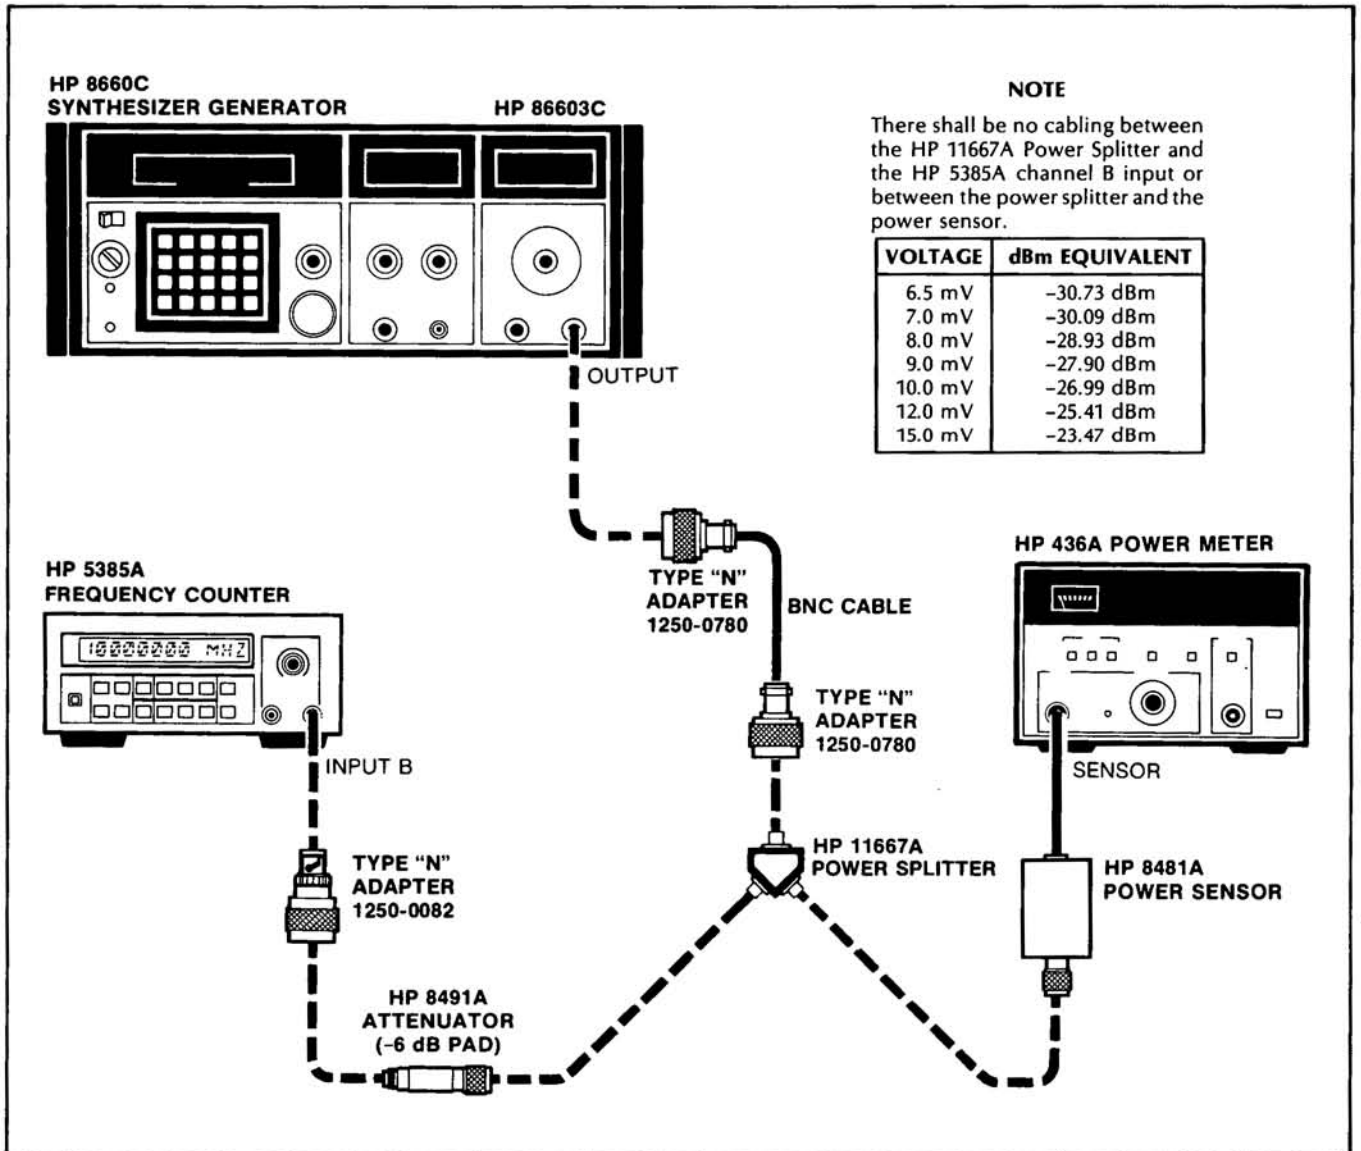

Figure 5-5. HP 5385A Channel B Input Amplifier Adjustment Setup
- c. Connect instruments as shown in Figure 5-5.